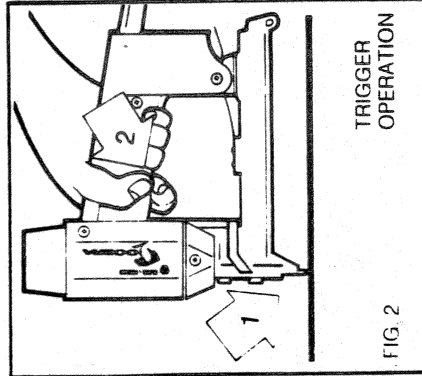

FIG. 2 TRIGGER OPERATION
1. **TRIGGER OPERATION** (See Fig. 2) Trigger operation method is the most commonly used. This method assures accurate placement of the staple and the maximum drive power.